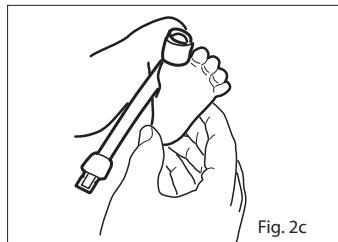

Fig. 2c
- Refer to Fig. 2c. Ensure that the emitter window (*) aligns on the top of the toe directly opposite the detector. Verify correct positioning and reposition if necessary.